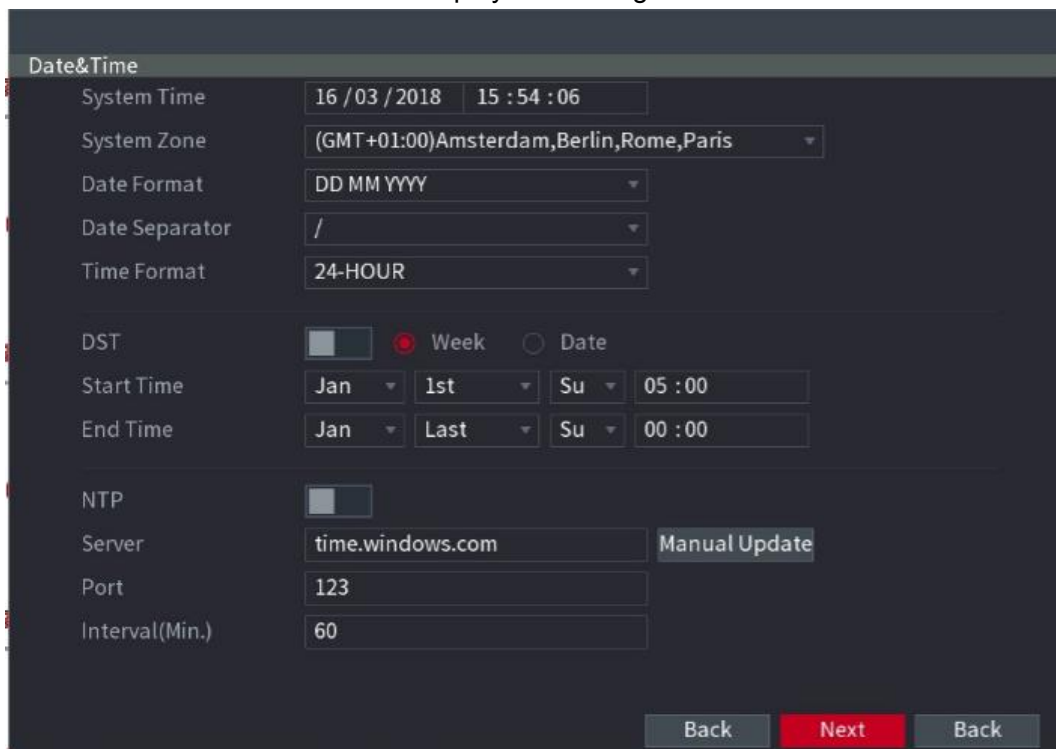

Figure 5-14
**Step 1** After you have configured the general settings, on the **General** interface, click **Next**. The **Date & Time** interface is displayed. See Figure 5-14.